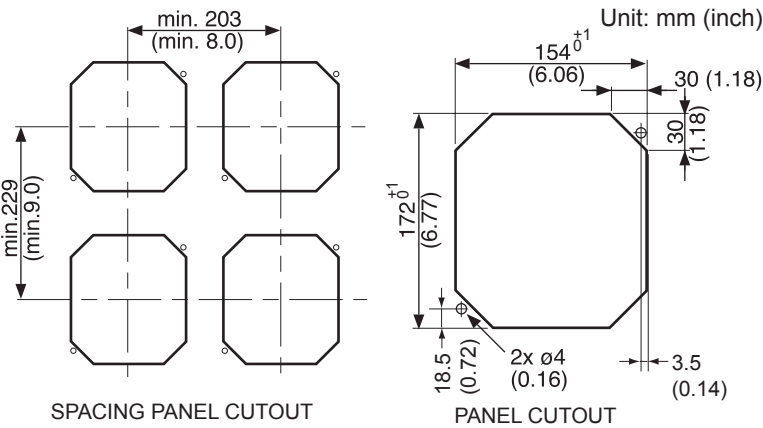

Fig. 3-2b. Panel mounting using two (2) self-tapping screws
- Panel mounting using two (2) self-tapping screws, refer to Fig. 3-2b.